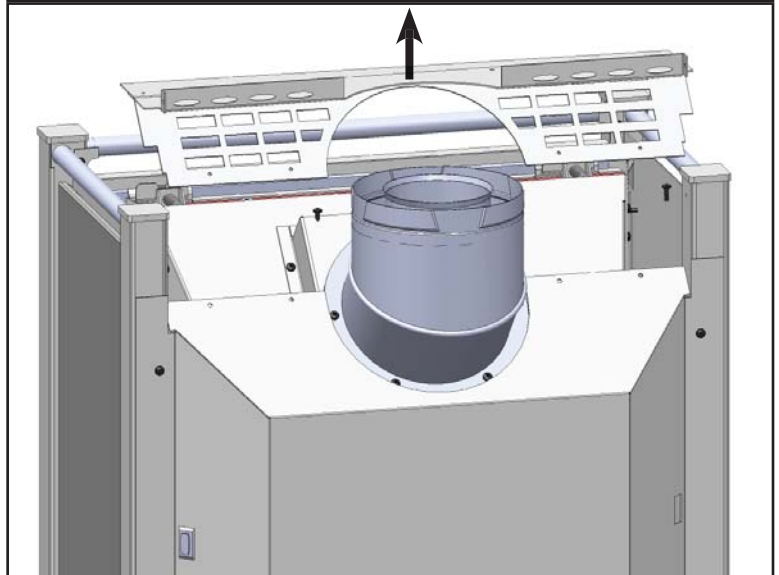

Fig.22
3. Remove top rear grill assembly from appliance and set aside. (Fig.22)